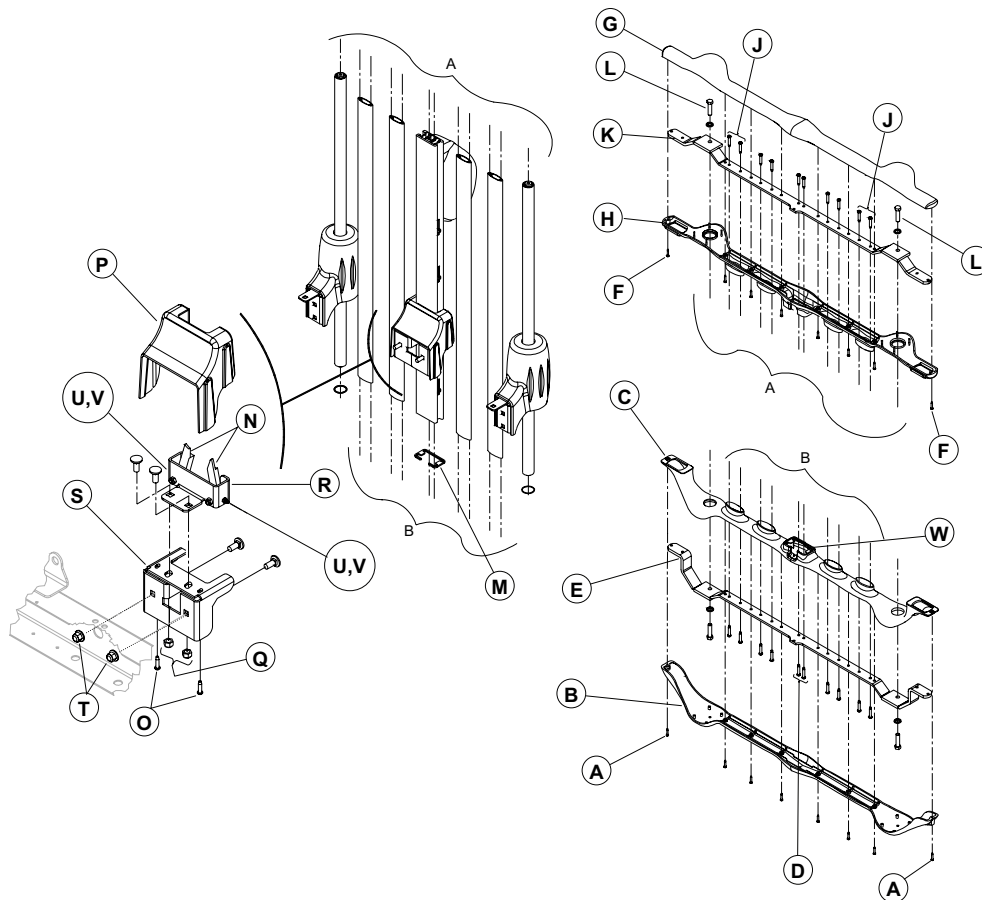

Figure 28 – Siderail central column replacement (moving access doors)
4. Using a #1 Phillips screwdriver, remove the eight screws (A) that secure the bottom half of the lower plastic cover (B) to the top half of the lower plastic cover (C) (Figure 28). Open the access doors to reach the two screws located at the ends of the top half of the lower plastic cover. Save the screws.
6. Using a #2 Phillips screwdriver, remove the two screws (D) that secure the lower end of the central column to the lower structural member (E) (Figure 28). Save the screws.
7. Using a #1 Phillips screwdriver, remove the eight screws (F) that secure the top half of the upper plastic cover (G) to the bottom half of the upper plastic cover (H) (Figure 28). Open the access doors to reach the two screws located at the end of the bottom half of the upper plastic cover. Save the screws.
11. Using a #2 Phillips screwdriver, remove the ten screws (J) that secure the upper end of the posts and the central column to the upper structural member (K) (Figure 28). Save the screws.
12. Using a 1/2" socket, remove the two bolts and two washers (L) that secure the upper end of the two guide posts to the structural member (K) (Figure 28). Save the bolts and washers.
17. Install the new column. Insert the bottom end into the brake shoe and slide the column until the bottom is seated in the cavity (W) of the lower plastic cover (Figure 28). Use caution to avoid damaging the seal while inserting the column into the lower plastic cover. See the note following step 15. While the column slides through the brake shoe, rotate the handle to open the lock stops (N) when the column reaches each of the fixed stops (Figure 28).
21. Using a #2 Phillips screwdriver, remove the two screws (O) that secure the brake shoe cover (P) to the brake shoe support (S) (Figure 28). Remove and save the cover. Save the screws.
22. Using a 1/2" socket, loosen the two locknuts (Q) that secure the brake shoe (R) to the brake shoe support (S). Remove the two locknuts (T) that secure the brake shoe support to the frame (Figure 28).
23. Move the brake shoe back and forth (head end to foot end) and the brake shoe support left to right to position the stop catches (N) (Figure 28). Tighten the locknuts.
24. If the stop catches still rub on the plastic extrusion, loosen the locknut (U) using a 3/8" combination wrench. Turn the adjustment screw (V) using a 3/32" Allen wrench until the proper alignment is achieved (Figure 28).
21. Using a #2 Phillips screwdriver, remove the two screws (O) that secure the brake shoe cover (P) to the brake shoe support (S). Remove and save the cover (Figure 28).
22. Using a 1/2" socket, loosen the two locknuts (Q) that secure the brake shoe (R) to the brake shoe support (S). Remove and save the two locknuts (T) that secure the brake shoe support to the frame (Figure 28).